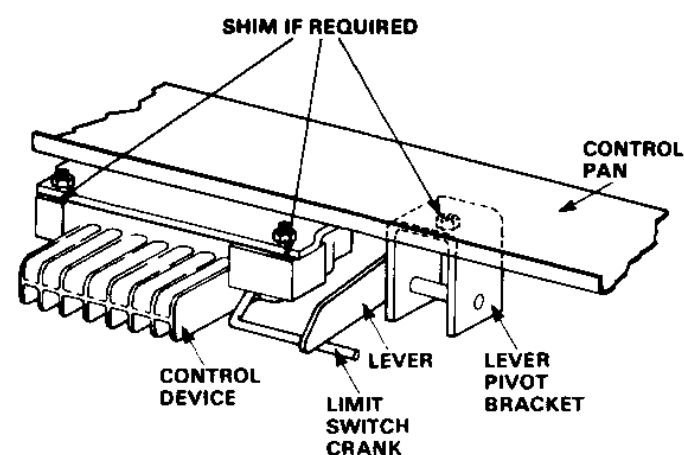

Fig. 6 – Control Relay
5.10 CONTROL RELAY ADJUSTMENT (See Figure 6)
The control relay does not normally require any adjustment in the field. The gap between the control device lever and the limit switch crank should be between 0.06" and 0.09" with the closing springs charged. If the gap measurement is incorrect adjust all 5HK circuit breakers except 5HK350, 3000 by shimming either at the lever bracket or the control device mounting screws as illustrated in Figure 6. Before changing shims at the two control device screws, loosen all three screws, replace shims and then tighten all three screws. The 5HK350, 3000 is adjusted by means of an adjusting head screw fastened to the lever.